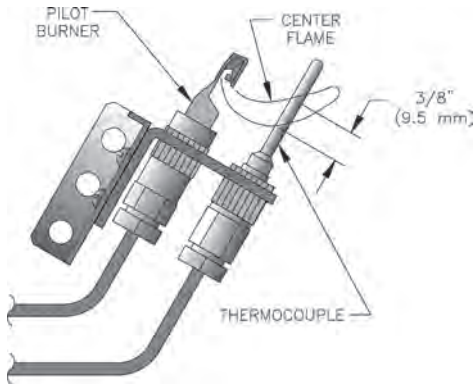

Figure 10: Pilot Burner Flame, Continuous Ignition System, Honeywell Q327 Pilot
- b. Continuous Ignition (Standing Pilot), Models _IN8__C through _IN12__C. See Figure 10. Pilot burner produces three (3) flames. The center flame should be steady, medium hard blue enveloping 3/8 to 1/2 inch of thermocouple. If flames are yellow and lazy, follow instructions TO TURN OFF GAS TO APPLIANCE (see Figure 4 for Models _IN8__C and _IN9__C or